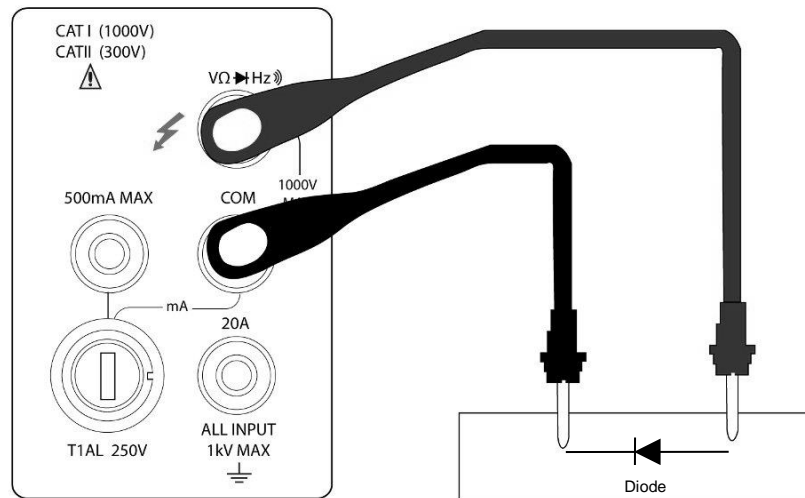

Figure 3-6 Diode Measurement
3. Connect test leads to the diode under test as shown in Figure 3-6.